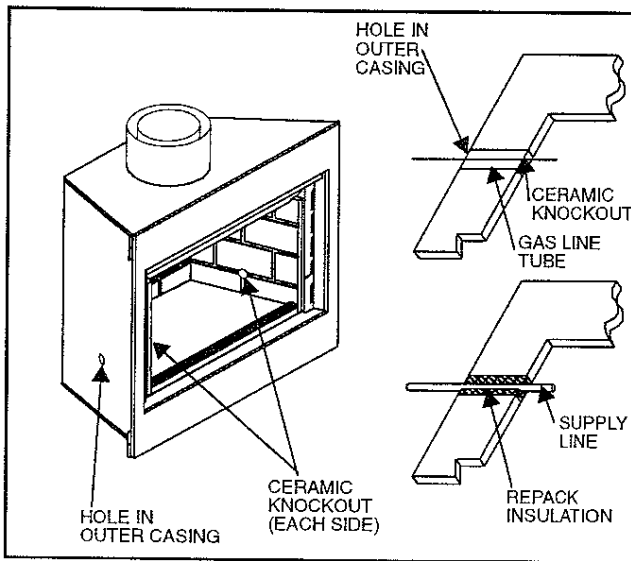

Fig. 24. Install iron pipe gas line through hole provided in either side of fireplace.
Locate the appropriate gas line hole in the outer casing of the fireplace and remove the insulation from the gas line tube. (Refer to Fig. 24.)
NOTE: The gas pipe should not come in contact with any wood structures until it has reached a point at least one (1) inch away from the fireplace side. (See Fig. 24 for installation clarification.)